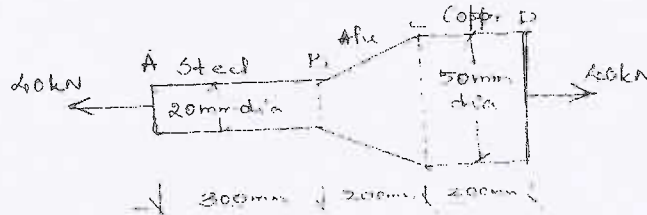

Fig.Q.1(c)
c. A stepped bar is subjected to an external loading as shown in Fig.Q.1(c). Calculate the change in length of the bar. Take E for steel = 200GPa, E for aluminium = 70GPa and E for copper = 100GPa. (05 Marks)